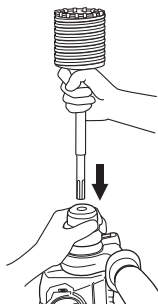

Fig. 20
- (2) Mount the core bit to the rotary hammer (Fig. 20).